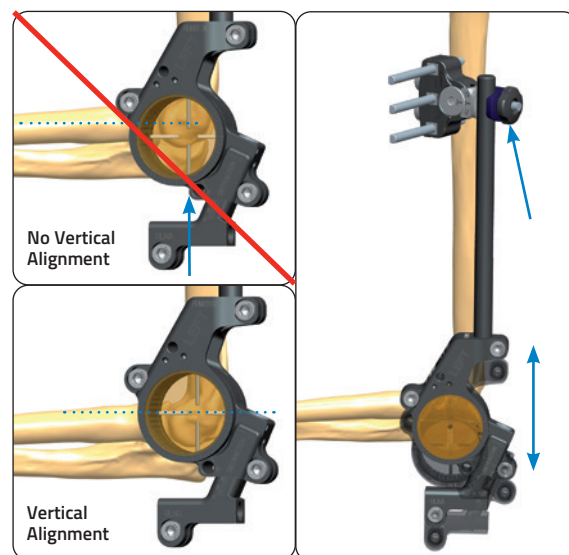

Fig. 7
- With the rod parallel to the longitudinal axis of the humerus, ensure that the hinge is vertically aligned with the center of rotation of the joint and lock the rod to the Multi-Screw Clamp by turning the knurled metal ring by hand (**Fig. 7**).